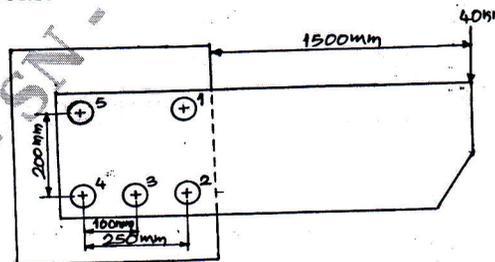

Fig.Q10(c)
- c. The joint shown in Fig.Q10(c) is subjected to an eccentric load of 40 kN. The bolts are made of plain carbon steel having yield strength in tension of 400 MPa and the factor of safety is 2.5. Determine size of bolts.